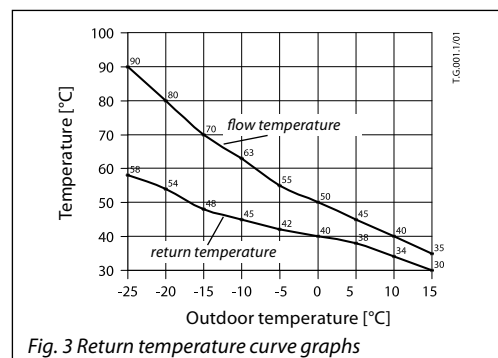

Fig. 3 Return temperature curve graphs
- CCR3 and actuators mounted on AB-QM with temperature sensors allow to control flow in risers through the return temperature control. When return temperature increases CCR3 automatically detects this change and reduces flow in risers according to set points (lower load in risers – lower flow needed). This results in improved room temperature control and greatly reduced overheating of the building. Compared to self-acting solution (QT thermostatic elements), AB-QTE solution covers very wide temperature setting. Setting range is presented Fig. 3. All 8 points of return temperature setting correspond to supply temperature what allows automatic adaptation to weather condition according the rules: lower outside temperature, higher supply temperature – except higher return temperature, but all time optimized at any supply parameter.